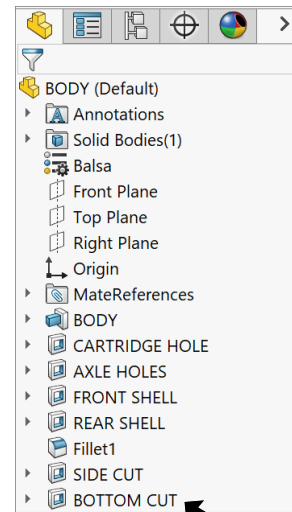

Fig. 42
Step 2. **Rename Cut-Extrude6 to BOTTOM CUT** in the Feature Manager, **Fig. 42**. To rename, click **Cut-Extrude4** name in Feature Manager and press **F2** on keyboard. Key-in **BOTTOM CUT**.